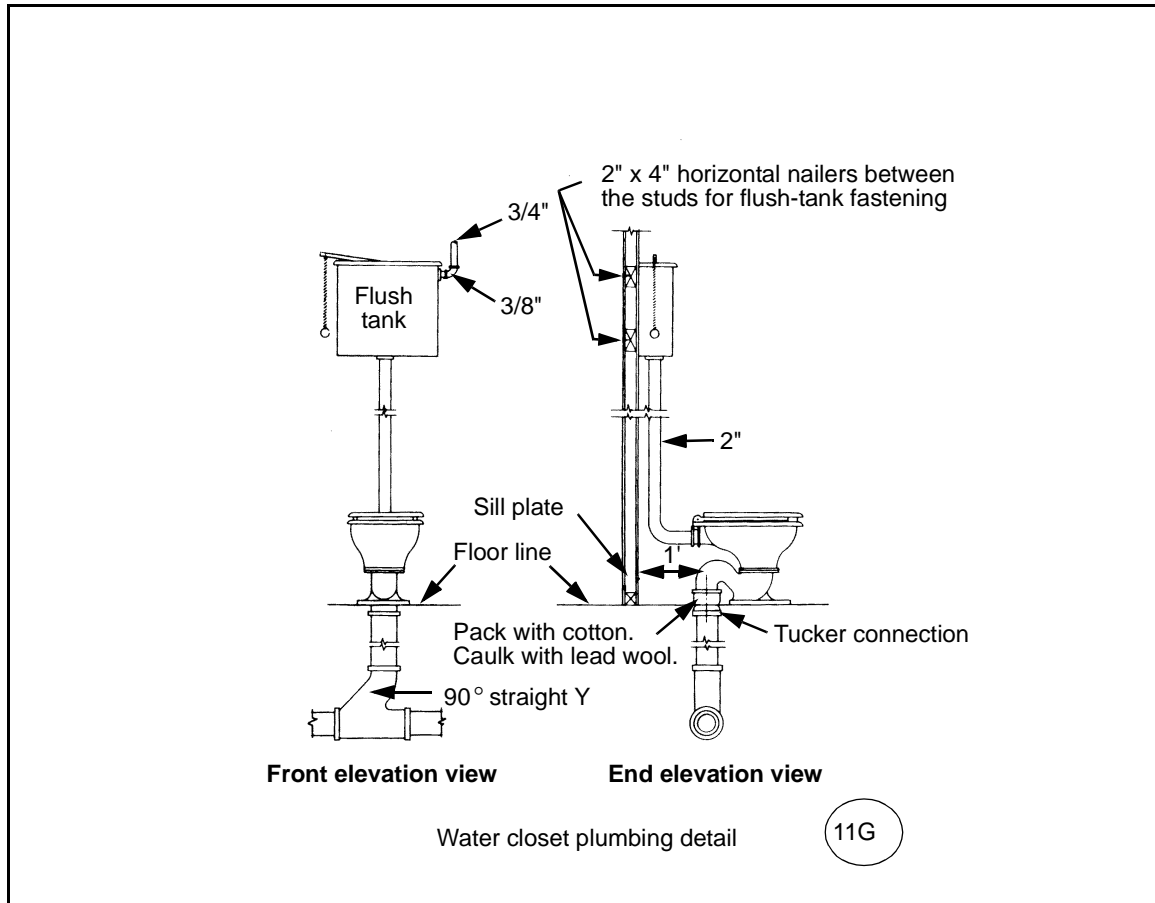

Figure B-3. Standard Detail Drawings (Bathhouse and Latrine)
- A standard detail drawing of a water closet installation (Figure B-3, page B-4).